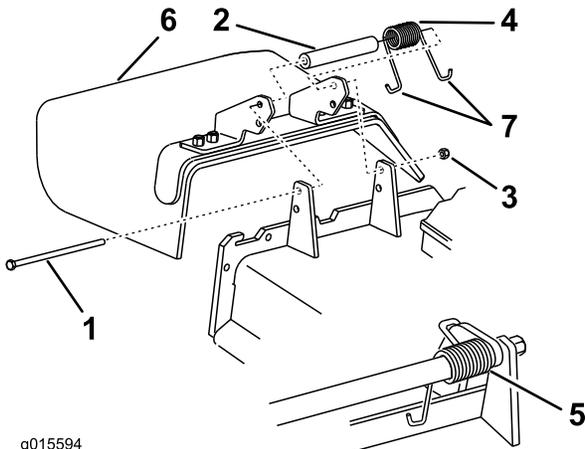

Figure 89
1. Remove the locknut, bolt, spring, and spacer holding the deflector to the pivot brackets (Figure 89).
Note: Make sure 1 J end of spring is installed behind deck edge before installing the bolt as shown in Figure 89.
6. Place 1 J-hook end of the spring around the grass deflector (Figure 89).